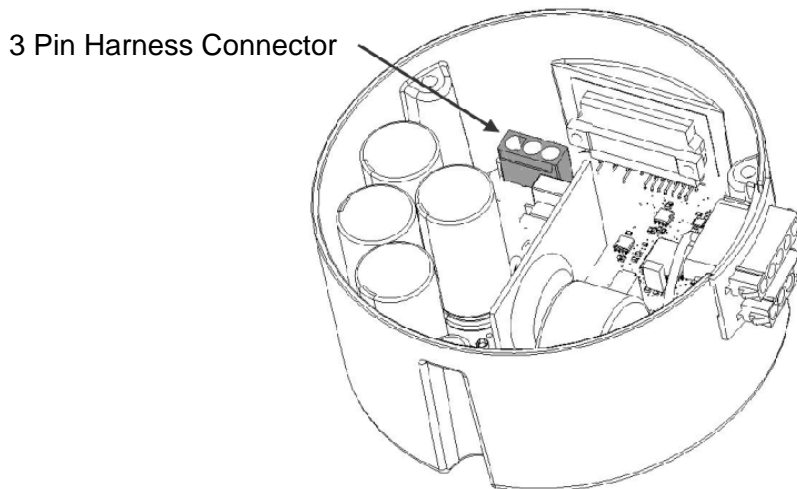

Figure 11
6. Check phase to phase resistance between each of the three phase pins in the harness connector [Figure 11]. Resistance levels between any two pins should be greater than 100K.